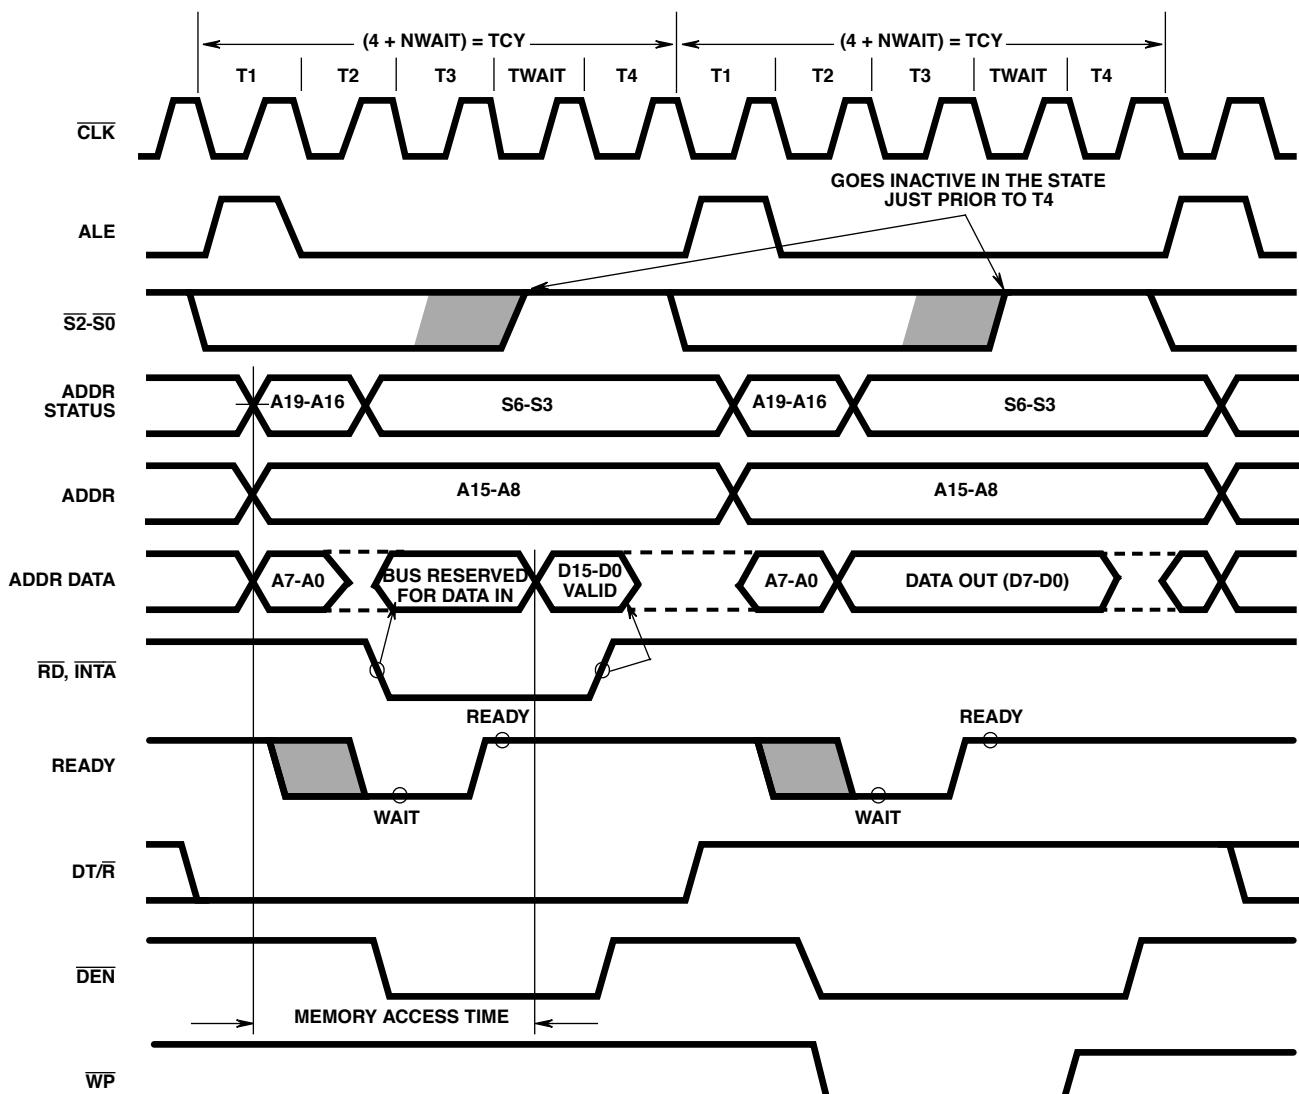

FIGURE 5. BASIC SYSTEM TIMING
Each processor bus cycle consists of at least four CLK cycles. These are referred to as T1, T2, T3 and T4. (See Figure 5). The address is emitted from the processor during T1 and data transfer occurs on the bus during T3 and T4. T2 is used primarily for changing the direction of the bus during read operations. In the event that a "Not Ready" indication is given by the addressed device, "wait" states (TW) are inserted between T3 and T4. Each inserted "wait" state is of
The read cycle begins in T1 with the assertion of the address latch enable (ALE) signal (see Figure 5). The trailing (low going) edge of this signal is used to latch the address information, which is valid on the address data bus (ADO-AD7) at this time, into the 82C82/82C83 latch. Address lines A8 through A15 do not need to be latched because they remain valid throughout the bus cycle. From T1 to T4 the IO/M signal indicates a memory or I/O operation. At T2 the address is removed from the address data bus and the bus is held at the last valid logic state by internal bus-hold devices. The read control signal is also asserted at T2. The read (\overline{RD}) signal causes the addressed device to enable its data bus drivers to the local bus. Some time later, valid data will be available on the bus and the addressed device will drive the READY line HIGH. When the processor returns the read signal to a HIGH level, the addressed device will again three-state its bus drivers. If a transceiver (82C86/82C87) is required to buffer the local bus, signals DT/R and \overline{DEN} are provided by the 80C88.